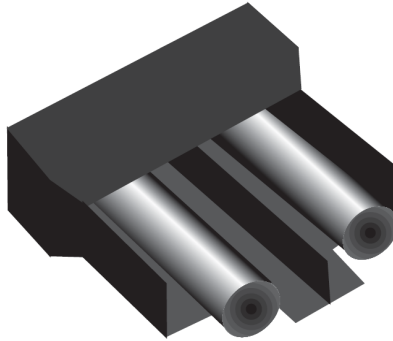

Figure 5.3: The fuse box and holder (with fuses) removed from instrument.
- 6 When removed, the fuse assembly will appear as shown in Figure 5.3. The holder inside contains two fuses.